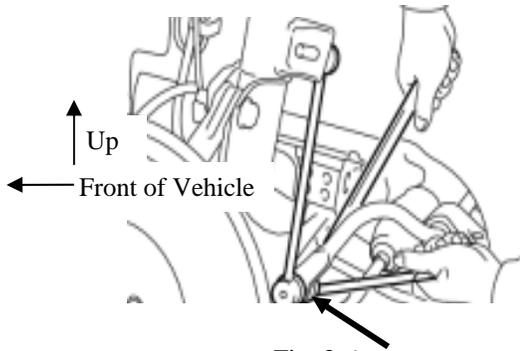

Fig. 3-6
- (e) Using a 17mm wrench and 6mm hex wrench, install the supplied OE lower nut (black arrow) on the sway bar end link, LH and RH side (Fig 3-6). Torque the nuts to 46 N•m.